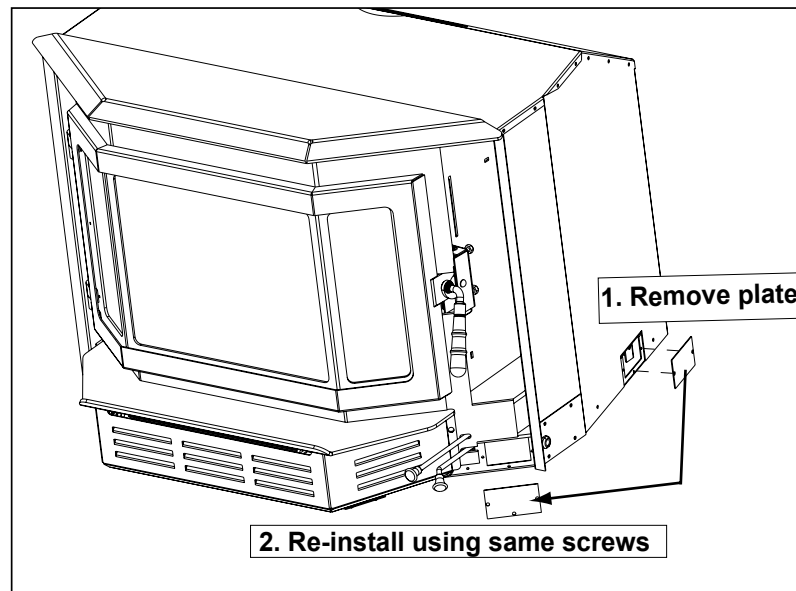

Figure 12B
2. Reattach the cover plate using the same screws to front side of the insert as shown in **Figure 12B**.